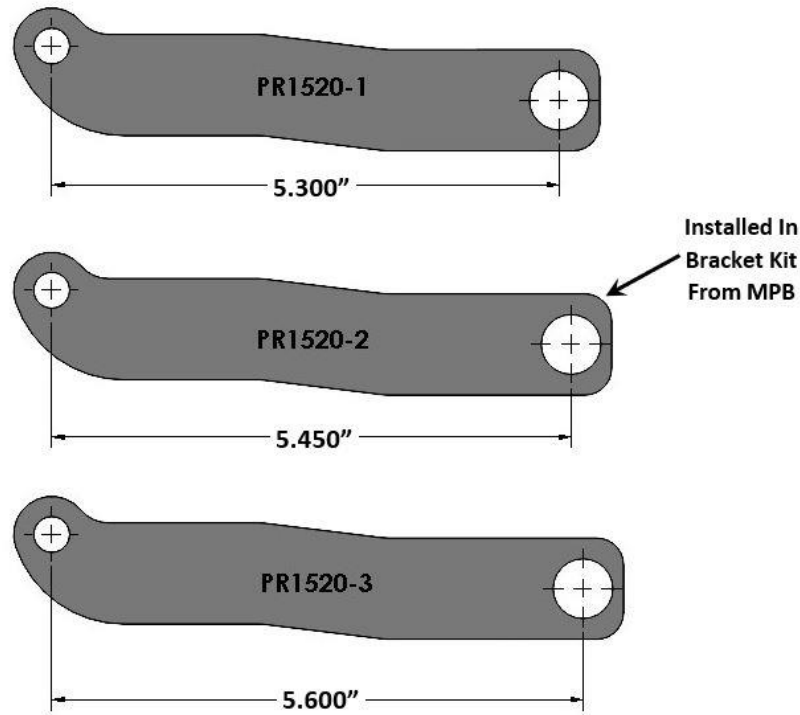

Figure 2 – Pushrod Length
- With the booster assembly temporarily attached to the firewall, determine what length pushrod works best for your application. We send the booster assembly with 3 different lengths of pushrods. As the assembly arrives to you, it has the mid length pushrod installed (**PR1520-2**, 5.450" length). There are two additional pushrods supplied so that you can fine tune the brake pedal placement to your liking. Simply uninstall the mid length pushrod and change to the short or long pushrod. The short pushrod (**PR1520-1**, 5.300" length) will lower your brake pedal approximately .900". And the long pushrod (**PR1520-3**, 5.600" length) will raise your brake pedal approximately .900". Refer to Figure 2 below for reference.